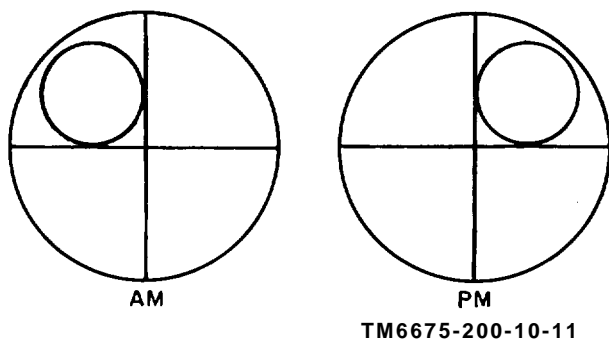

Figure 12. Method of sighting sun for equal angles.
- (1) Perform the procedures given in a (1) through (5) above.
- (2) Select a conspicuous star in the south-southwestern sky for use throughout the series of observations.
- (3) Perform the procedures given in a (7) through (18).
c. Sun. The equal-angles method may be used also in observations of the sun. The first three observations, however, must be made on the sun as it rises toward culmination and the last three observations as it descends. The sun occupies a large portion of the field of the theodolite, and it cannot be centered in the field as accurately as a star. To increase the accuracy of the observation, position the cross hairs over the sun (fig. 12). If the observation is being taken in the morning, place the right edge of the sun tangent to the vertical cross hair; if the observation is being taken in the